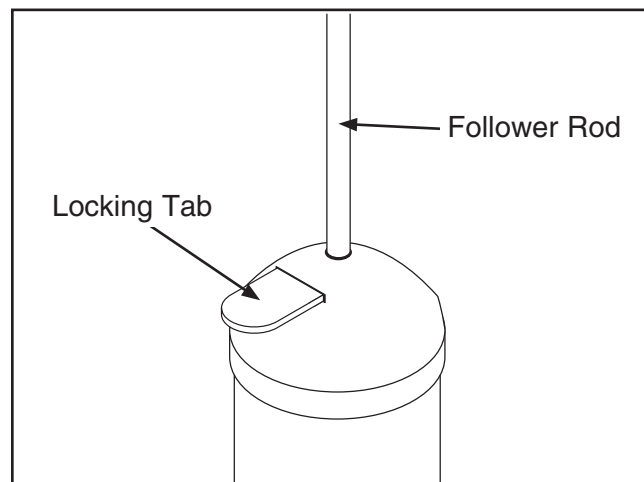

Figure 4. The follower rod and locking tab
2. Pull the follower rod back until it is fully extended; the locking tab will automatically hold it in place (**Figure 4**).
5. After ejecting the used grease cartridge, pull the follower rod back until it is fully extended, and allow the locking tab to hold it in place (**Figure 4**).
2. Pull the follower rod back until it is fully extended, the locking tab will automatically hold it in place (**Figure 4**).
8. When the follower rod is fully extended, allow the locking tab to hold it in place (**Figure 4**).
2. Pull back on the follower rod until it is fully extended (**Figure 4**).